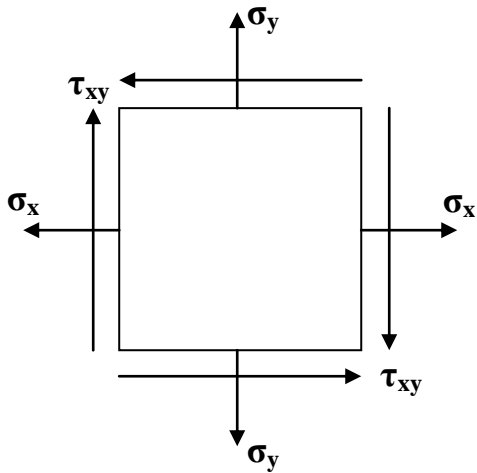

Figure 1
- (c) At a point in a strained material, the stresses are shown in **figure 1**. If the value of Major principal stress is 100 N/mm^2 (Tensile), find out the values of σ_y and Minor principal stress. Consider $\sigma_x = 60 \text{ N/mm}^2$, $\tau_{xy} = 40 \text{ N/mm}^2$. **07**